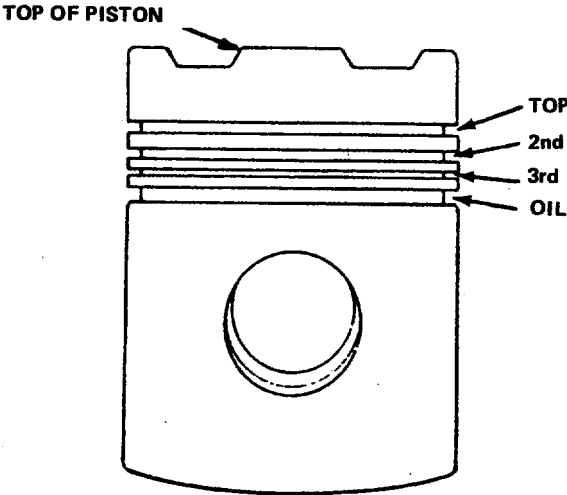

FIGURE 4-40. Ring Positions.
- (3) The piston ring shipping package identifies the location of each piston by ring part number. Install the rings in the position shown (FIGURE.4-40) .